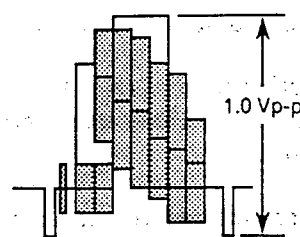

Figure 2-6.
2. Play the colour bar portion of the alignment tape and adjust R201 so that the signal amplitude is 1.0Vp-p as shown in Figure 2-6.